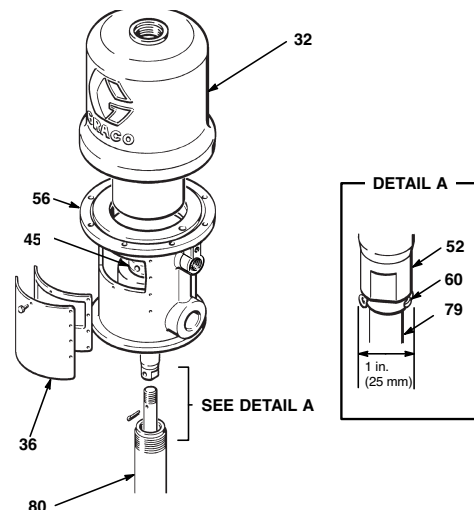

FIG. 6
See Fig. 6 on page 12 and the Parts drawing and list (page 13 and 14) for further information.
1. Clamp the pump in a vise and unscrew the riser tube (80) from the air motor base (56). Pull the riser tube away from the air motor until the cotter pin (60) which secures the displacement pump connecting rod to the air motor piston rod (52) is visible. (Fig. 6)
2. Remove the cotter pin (60) and unscrew the pump connecting rod (79) from the air motor piston rod (52). Remove the cylinder (32) from the air motor base (56) as described in the Disassembly section on page 10).
3. Remove the louvered air exhaust plate (36) and unscrew the throat packing nut (45), using a spanner wrench or a 0.22 inch (5.6 mm) diameter rod. (Fig. 6)
4. Remove the packing nut (45), male and female glands (47 and 48), v-packings (49), washer (44), bearing (46), retainer (24), wiper (22), o-ring (23), u-cup (25), and washer (26) from the base.
7. Install the washer (26) into the base. Assemble the packing (25) and the wiper (22) into the retainer (24). Install the o-ring (23) onto the retainer, and insert the retainer assembly into the base.
**NOTE:** Make sure the packing (25) lips face down, and make sure the wiper (22) lips face up.
8. Insert the bearing (46) and the washer (44) into the base. Assemble the female gland (48), v-packings (49), and the male gland (47) into the packing nut (45).
9. Reinstall the spacer and packing in the base and packing nut (45). Screw the packing nut into the base, and tighten it securely. Carefully slide the piston rod (52) down through the throat packing, and lower the piston into the base. Reinstall the plate (36) and cylinder (32). Reassemble the air motor to the displacement pump.
10. Torque the outlet adapter (42) to 45 to 55 ft-lbs (61 to 75 N.m).
When reinstalling cotter pin (60), **always** spread and flatten the pin (both the head and prongs) around the rod to within 1 inch (25 mm) total diameter. See Detail A of Fig. 6.